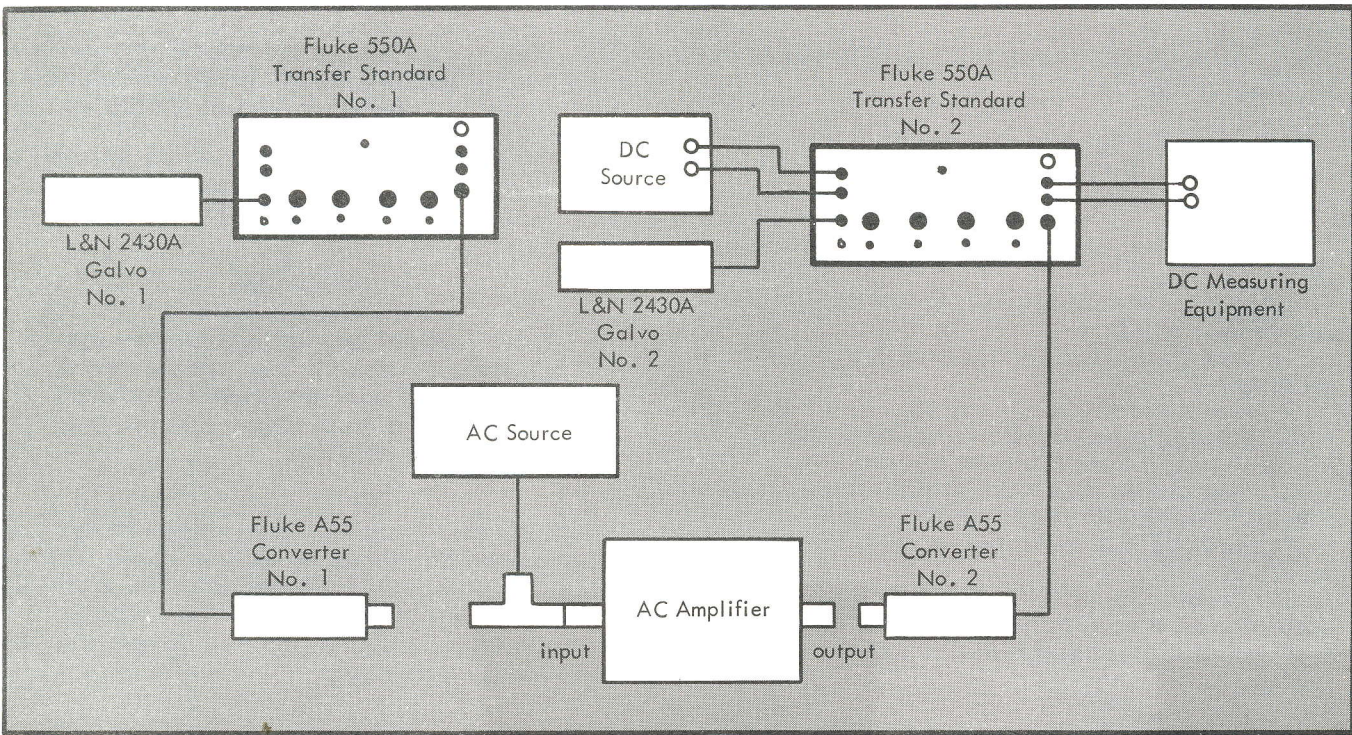

Figure 2-8. FREQUENCY RESPONSE SETUP DIAGRAM FOR AC AMPLIFIERS
a. Connect the equipment as shown in Figure 2-8. The dc source must be floating. The thermal converters used must have a voltage rating equal to or greater than the rms value of ac voltage to be measured.
(1) Depress the SEARCH SENSITIVITY pushbutton and adjust the SEARCH SENSITIVITY control for a null. If 1%/mm to 6%/mm resolution is sufficient, proceed to step g.
(2) Depress the LOW SENSITIVITY pushbutton and adjust the LOW SENSITIVITY control for a null. If 0.1%/mm to 0.6%/mm resolution is sufficient, proceed to step g.
(3) Depress the MEDIUM SENSITIVITY pushbutton and adjust the MEDIUM SENSITIVITY control for a null. If 0.01%/mm to 0.06%/mm resolution is sufficient, proceed to step g.
(4) Depress the HIGH SENSITIVITY pushbutton and adjust the HIGH SENSITIVITY control for a null. Resolution is approximately 0.001%/mm to 0.006%/mm.